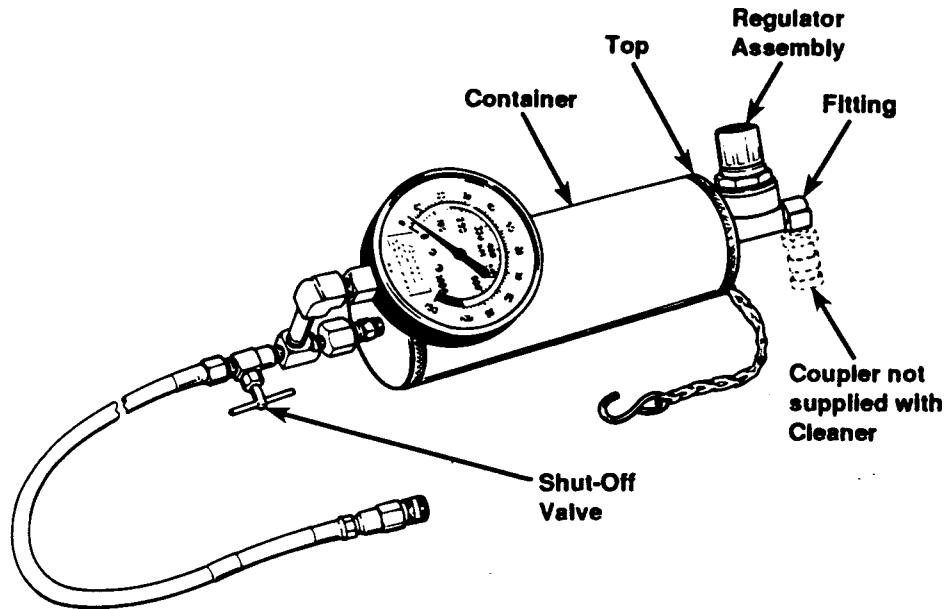

Figure 1
5. Turn OFF shut-off valve at bottom of Fuel Injector Cleaner container. See Figure 1. **Note: Valve is OFF if it's turned all the way clockwise.**